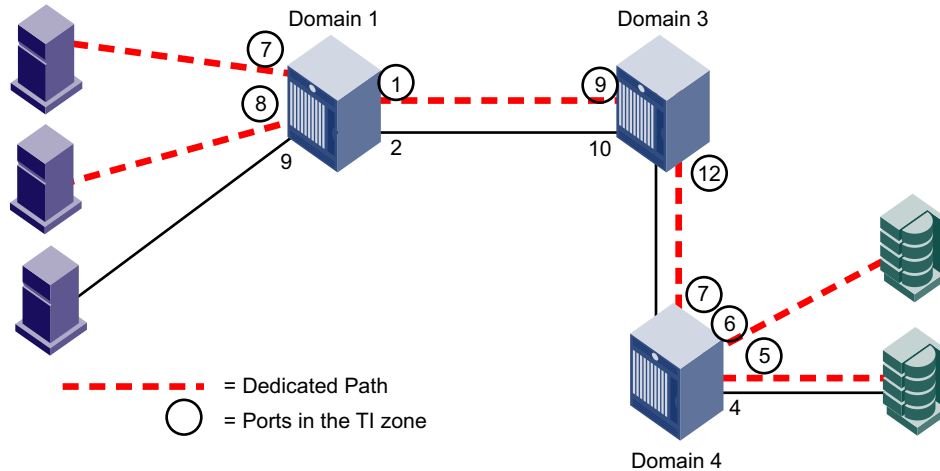

FIGURE 31 Traffic Isolation zone creating a dedicated path through the fabric
Figure 31 shows a fabric with a TI zone consisting of the following:
In Figure 31, all traffic entering Domain 1 from N\_Ports 7 and 8 is routed through E\_Port 1. Similarly, traffic entering Domain 3 from E\_Port 9 is routed to E\_Port 12, and traffic entering Domain 4 from E\_Port 7 is routed to the devices through N\_Ports 5 and 6. Traffic coming from other ports in Domain 1 would *not* use E\_Port 1, but would use E\_Port 2 instead.
For example, in Figure 31 on page 346, if the dedicated ISL between Domain 1 and Domain 3 goes offline, then the following occurs, depending on the failover option:
- This feature is intended for use in simple linear fabric configurations, such as that shown in Figure 31 on page 346.